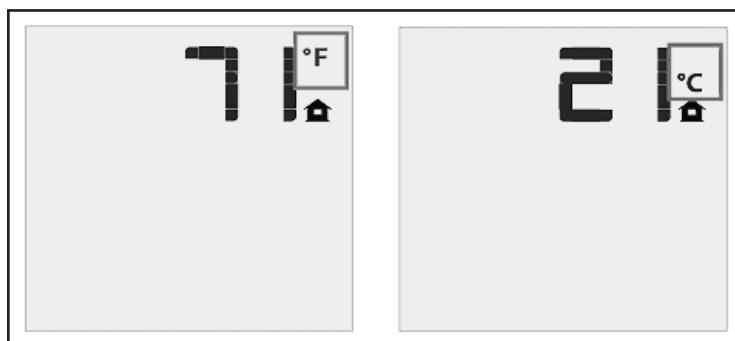
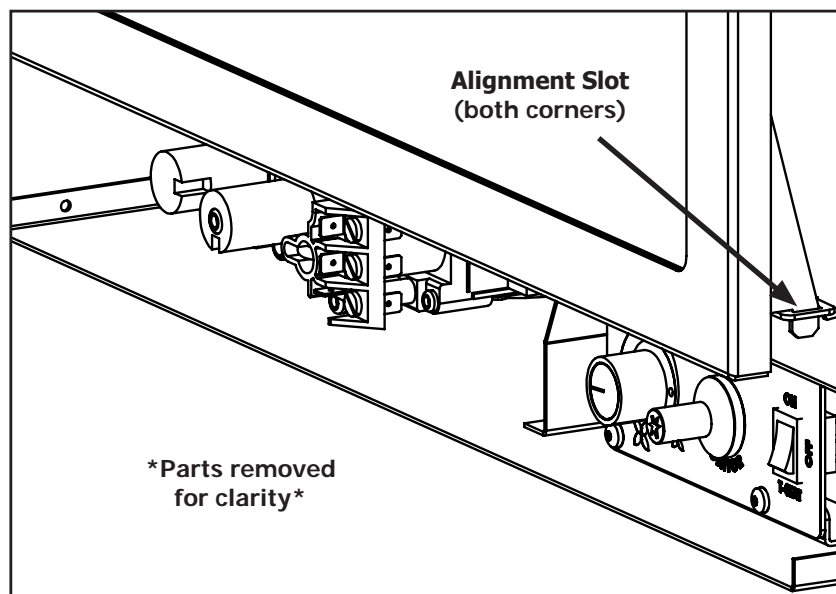

Figure 8: Remote Control Display in Fahrenheit and Celsius.
Figure 18. Bottom Alignment Slots for glass door.
With the system in the "OFF" position, press the Thermostat Key and the Mode Key at the same time. Look at the LCD screen on the transmitter to verify that a °C or °F is visible to the right of the Room Temperature display (see Figure 8).
In order to install the coal set, and for regular cleaning, the glass door must be removed. There are two (2) door latch mechanisms on top the glass door as shown in Figure 8. Each latch has a hole at the front to use the door tool, supplied with the unit, to pull the mechanisms straight out and up. When the top latches are unhooked, lean the door forward and then lift it up out of the alignment slots at the bottom corners of the firebox, shown in Figure 18.